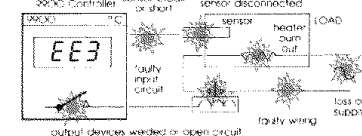

Fig. 3 Typical faults detected by LBA
- 7.3 LBA – Loop break alarm **see Fig. 3**